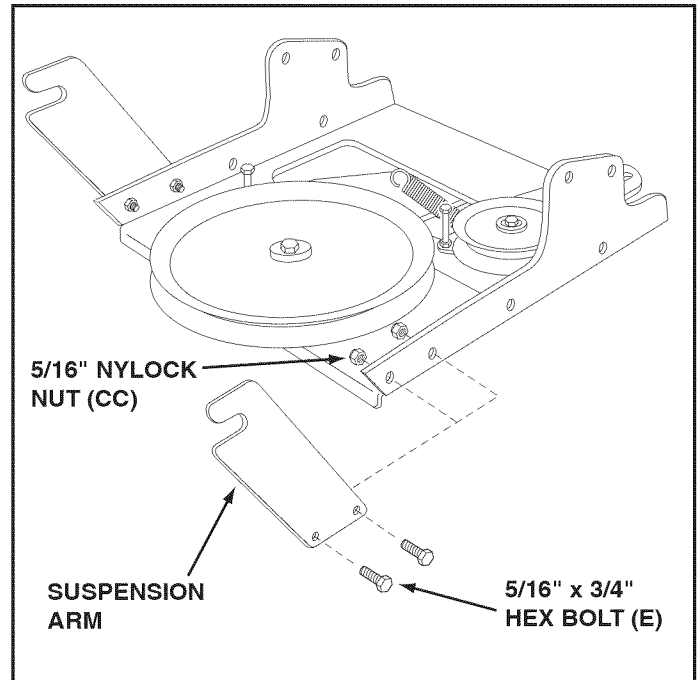

FIGURE 14
STEP 14: (SEE FIGURE 14)
- Attach the two suspension arms to the outside of the clutch/idler assembly using two 5/16" x 3/4" hex bolts (E) and 5/16" nylock nuts (CC) for each arm.